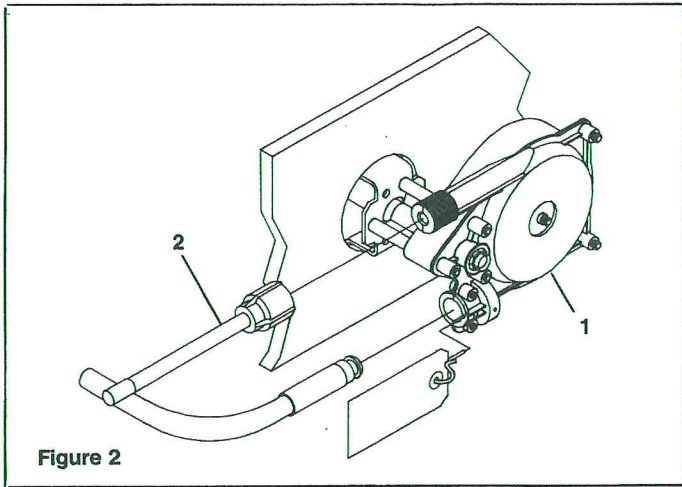

Figure 2
STEP 2. Remove protective sleeve from cable end, making sure that dirt does not get onto the lubricated cable end. Feed cable end into **LOWER** helm entry spigot until it contacts the internal gear, then turn steering wheel to draw cable fully into the helm, (see Figure 2). Continue turning wheel until end fitting of cable is entered into the entry spigot, and wheel cannot be turned further. During this you may hear a click as the locking mechanism engages. Turn steering wheel fully in the other direction until it cannot be turned any further, check that cable end fitting is retained inside the entry spigot.
STEP 4. Replace pins as shown in Figure 2, making sure that they are fully seated. If one pin cannot be inserted, that cable is not fully seated in the helm. Push on cable to ensure that it is fully home. **DO NOT REMOVE TAGS FROM PINS.**